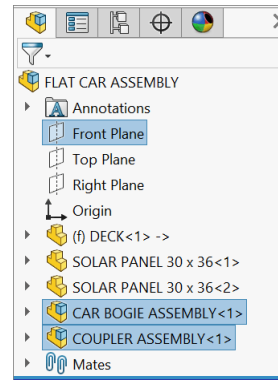

Fig. 34
Step 1. Ctrl click Front Plane , Bogie Assembly  and Coupler Assembly  component in the Feature Manager to select plane and components, Fig. 34.